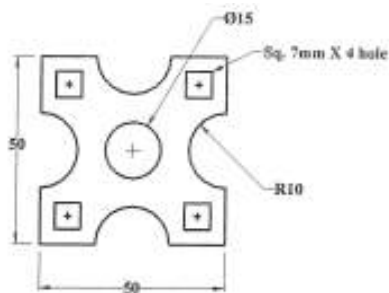

Fig: 4
5. Design a progressive die for the component shown in Figure 4
- i) Draw strip layout that explain the operation to be performed on the strip to get component as shown in fig. 4.
6. a) What is pilot ? What are the types of pilots ? How it is selected for the component in fig. 4 ? And how it will be fitted in press tool explain with neat sketch. 8